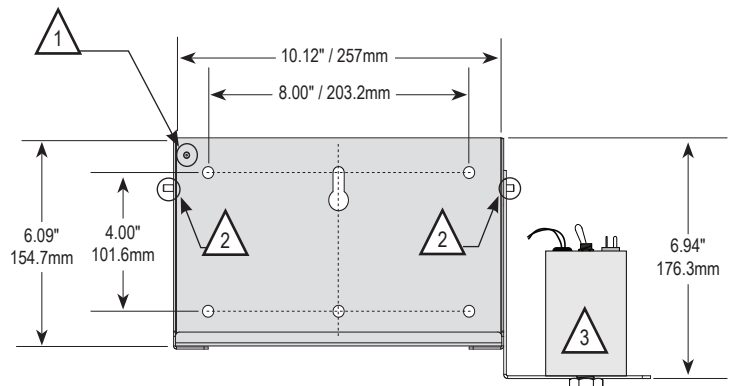
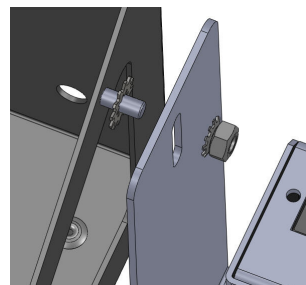
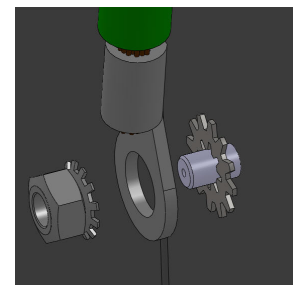

Fig. 3, Mounting hole layout and SPI bracket
Fig. 4, SPI Hardware stack up
Fig. 5, Ground wire stack up
4. Install the SPI to the SPI bracket and torque to 130 in-lbs. Follow the proper stack up as shown in Fig. 4 and mount the SPI bracket onto either #10-32 (item 2, Fig. 3) studs and tighten supplied #10-32 nut and lock washer.
5. The shelf is connected to ground via the #10-32 ground stud circled in Fig. 3. Follow the proper stack up as shown in Fig. 5 to attach the supplied lock washer, #10-32 nut and user-supplied ground wire. Refer to applicable codes to determine additional grounding requirements.